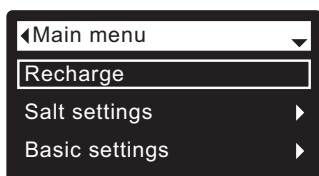

FIG. 43
2. Make sure **Recharge** is highlighted (See Figure 43).